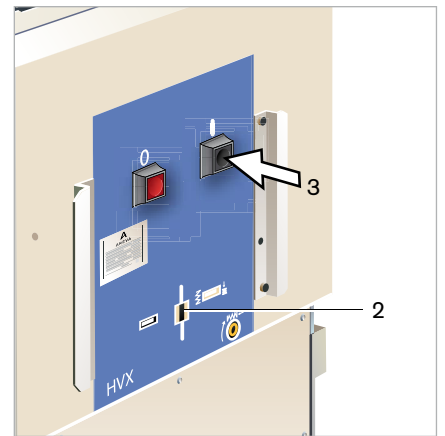

Fig. 44
- press ON button (I) (Fig. 44, item 3) or